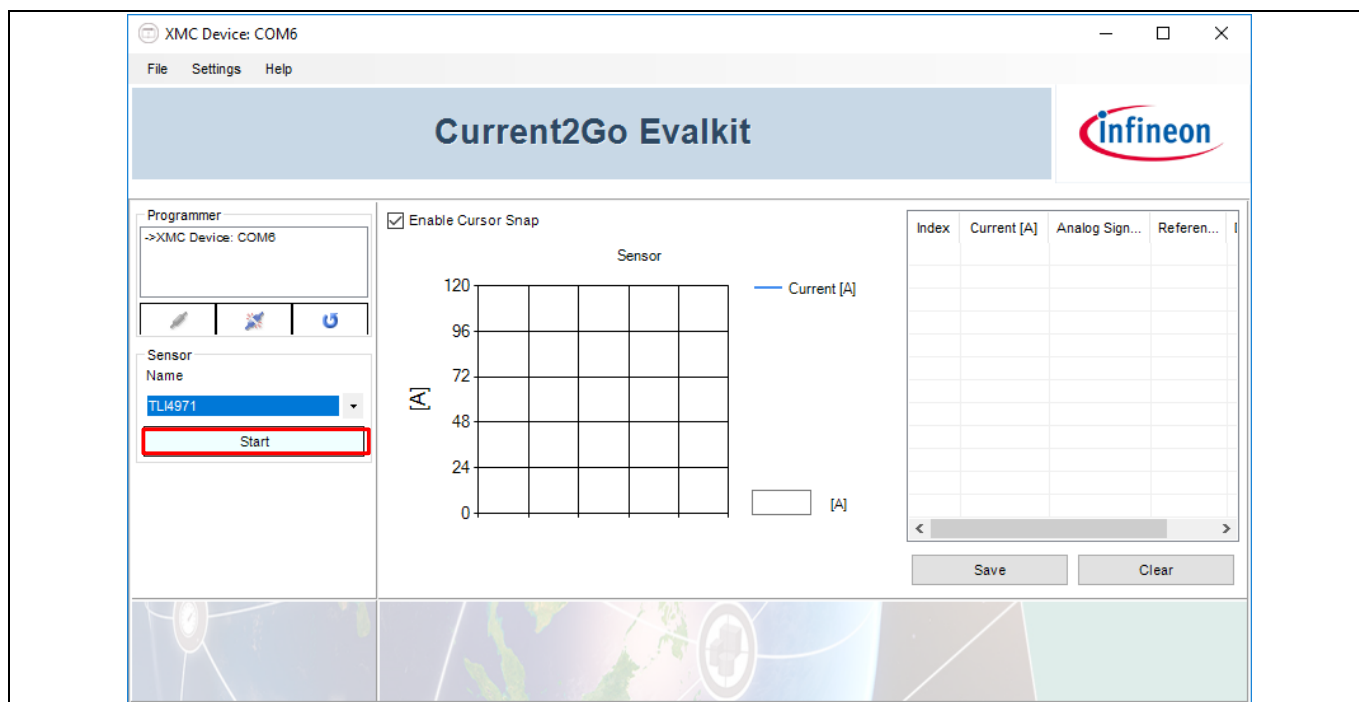

Figure 16 XMC Device: COM6 window: successful connection with Sensor
- After that the following window will pop up if the software is successfully installed (see Figure 16). Then click on the “Start” button, which is highlighted in red color box, to perform the measurements on the connected sensor.